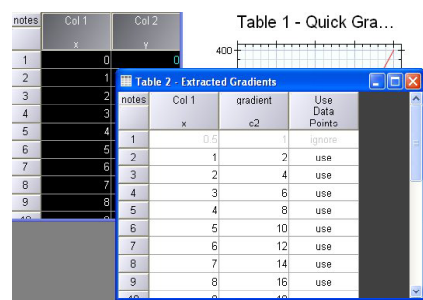

Figure 47
- From the *Graph Tools* menu select *Extract Gradients*. This tool calculates the gradient at each point and places the result in a separate table (Figure 47).